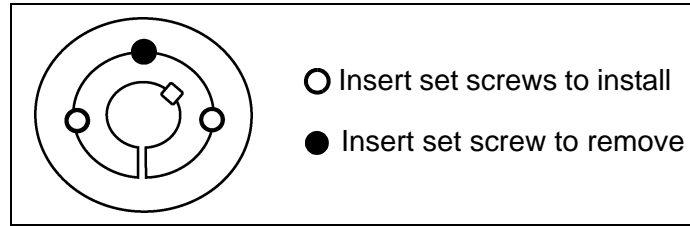

Figure 4A Number 1008 to 3030 Bushing
3. Lightly oil set screws and thread into the half-threaded holes indicated as in See Figure 4A.
2. Insert screws in hole or holes indicated on See Figure 4A. Loosen the bushing by tightening the screw(s).